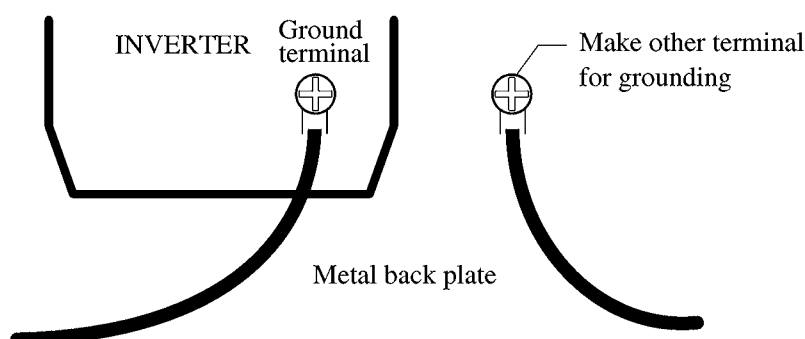

Figure 6 Grounding
- 2) No more than 1 cable should be connected to each ground terminal of the main terminal board. In this case, other cables for grounding should be grounded on the metal back plate or/and in the cubicle (Refer to Figure 6). The cross-sectional area of grounding cable shall be, in any case, not less than 3.5 mm2.